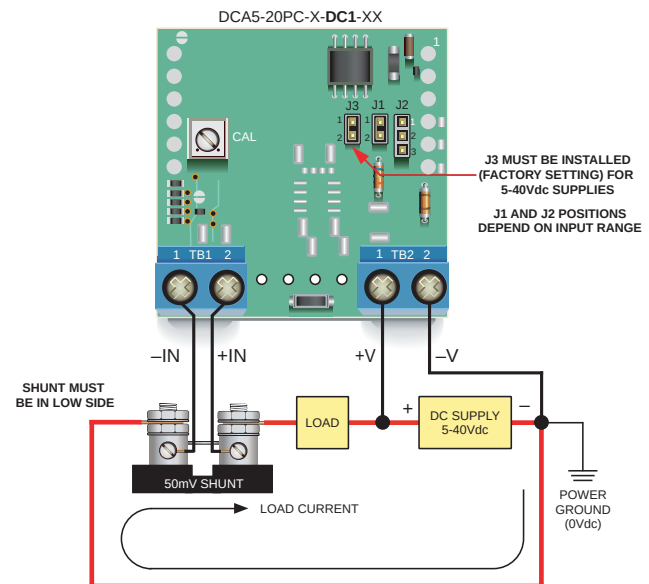

Figure 2. Low-Side Shunt Connections for "-DC1" 5-40Vdc Non-Isolated Supply Models
**Low-Side Shunts:** Applications that employ a single power supply to power both the load and the ammeter, and the external shunt is located in the negative side of the supply (commonly referred to as "low side" or "grounded shunt") should use '-DC1' non-isolated power DCA5-20PC Series ammeters. Figures 2, 3, and 4 depict typical low-side shunt connections.